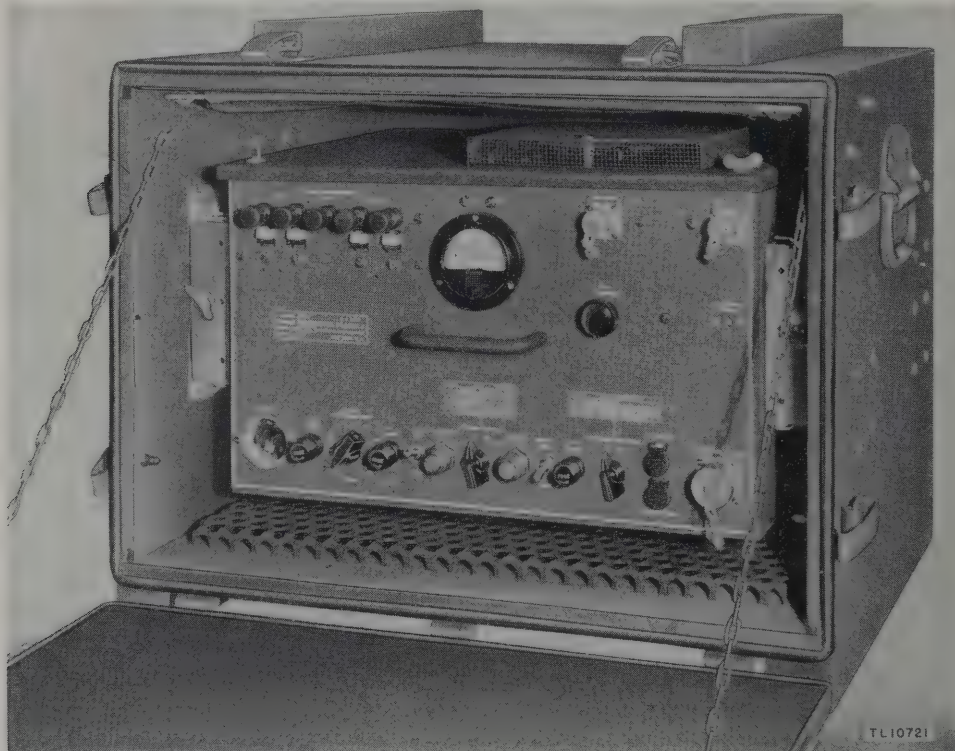

Figure 11. Radio Transmitter T-14/TRC-1 installed in Case CY-17/TRC-1.
a. CASE CY-17(*)/TRC-1. This is a waterproof plywood carrying case designed to house Radio Transmitter T-14(*)/TRC-1 when in transit or in field use (fig. 11). It is identical in external size and appearance to Cases CY-15(*)/TRA-1 and CY-18(*)/TRC-1 used to contain Amplifier AM-8(*)/TRA-1 and Radio Receiver R-19(*)/TRC-1, respectively. The case contains a shock-mounting rack into which the transmitter slides and locks. When the case is closed by means of the snap locks provided, a neoprene (a type of artificial rubber) gasket seals the case against the entrance of moisture. The front cover must be open under operating conditions; a canvas protective hood is provided for protection during inclement weather. A quantity of dehydrating agent is secured in this case to protect the equipment from the effects of moisture during shipment and storage.